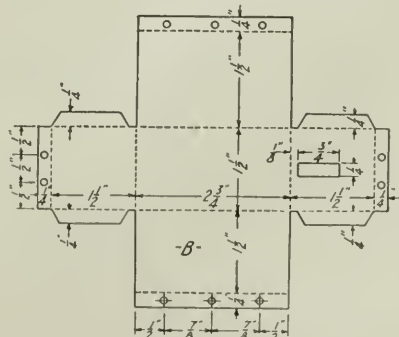

Fig. 3. Dimensions for cover to fit magnet taken from bell or buzzer
Dimensions for a magnet cover (B) that will fit over a magnet taken from a medium sized bell or buzzer are shown in Fig. 3. This should be made of light sheet brass or aluminum. Small lips are provided which are bent in and sol-